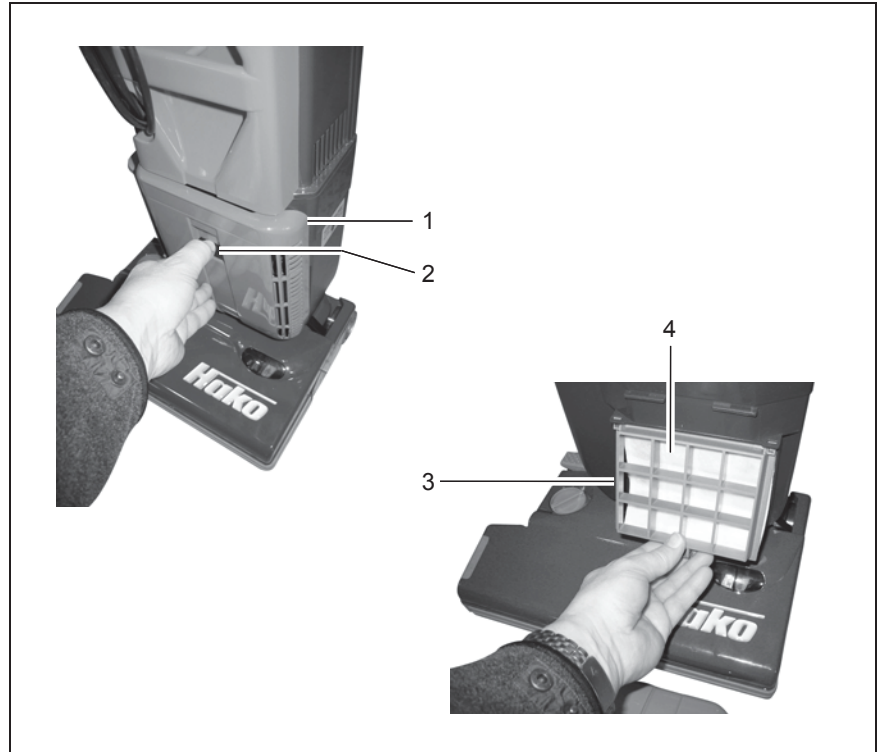

Fig. 9
1. Press the cover latch (Fig. 9/2) and remove the microfilter cover (Fig. 9/1).
2. Remove the plastic grid (Fig. 9/3) and replace the microfilter (Fig. 9/4) (2 pieces are enclosed with the paper filter bags).
3. Reinsert the microfilter (Fig. 9/4) and replace the microfilter cover (Fig. 9/1).